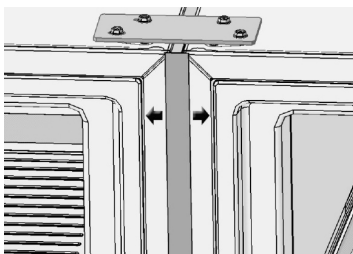

Fig. 17
- b. Adjust the proximity of the units as needed to centralize the middle trim. Start by fastening the screws on top 1H bracket in order to evenly space the Center Trim (Fig. 17).